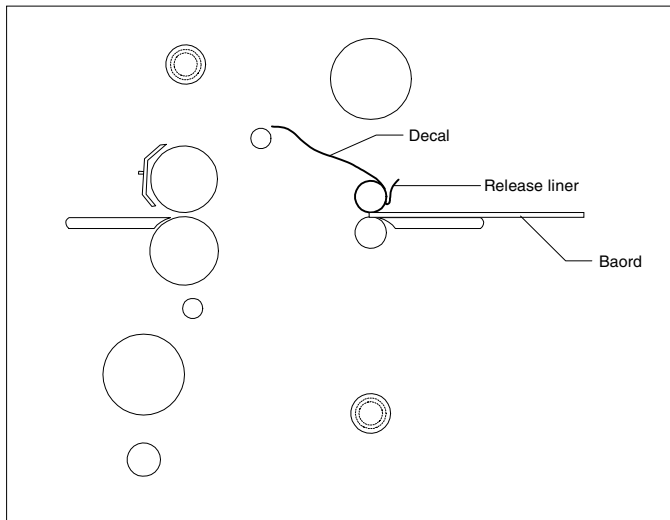

Fig. 38
1. This application can also be performed from the rear operating position. Reference Figure 38 for illustration.
TIPS FOR MOUNTING A DECAL (Figure 38)